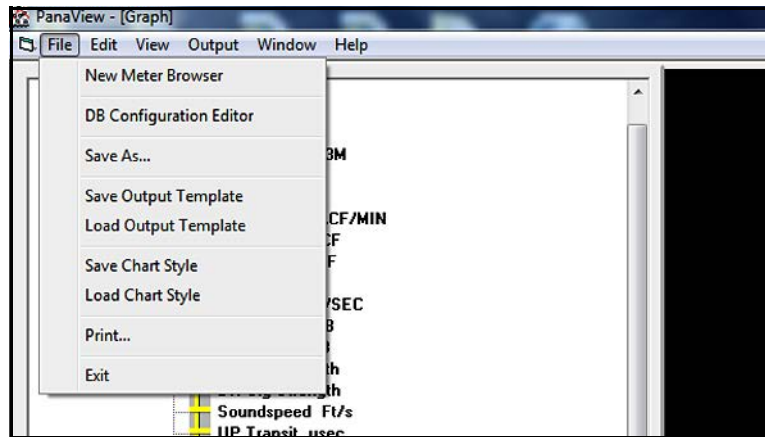
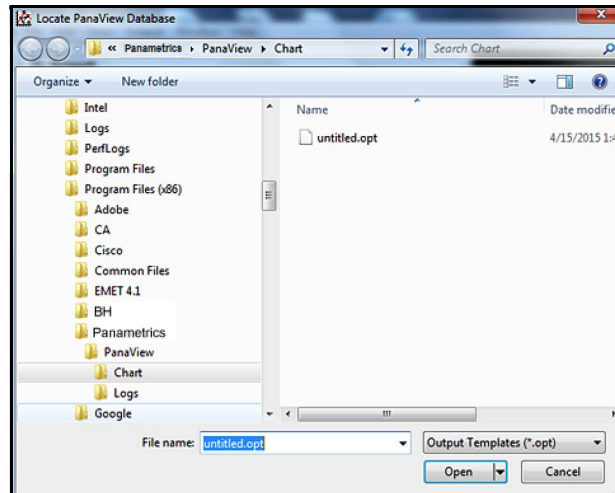
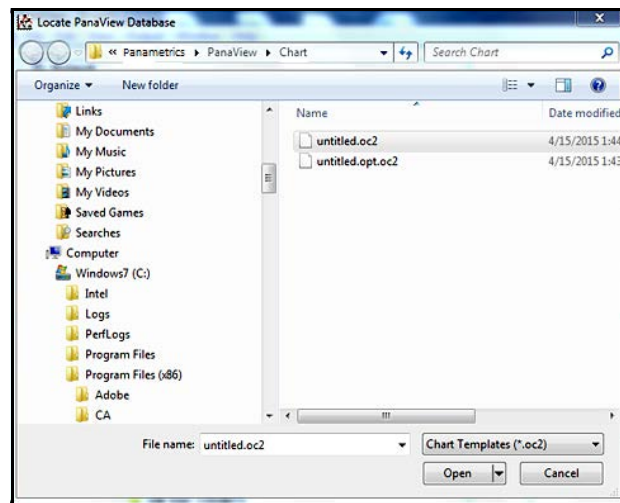

Figure 55: The File Menu for Graphs
Figure 59: Opening an Output Template
Figure 60: Opening a Chart Style Template
After setting up a chart (graph), as described in the previous section, you will find that several new menu options are now available in the “File” menu (see Figure 55 below).
- Open the “Output” menu and click on the “Graphing – From Template” option (see Figure 51 on page 39) or open the “File” menu and click on the “Load Output Template” option (see Figure 55 on page 44). If any output templates (*.opt) have been saved, select the desired file in the dialog box shown in Figure 59 below. Then, click on the **[Open]** button to load the properties and parameters to be graphed from the output template selected.
- Open the “File” menu and click on the “Load Chart Style” option (see Figure 55 on page 44). If any chart templates (*.oc2) have been saved, select the desired file at the dialog box shown in Figure 60 below. Then, click the **[Open]** button to load the graph properties from the output template selected.